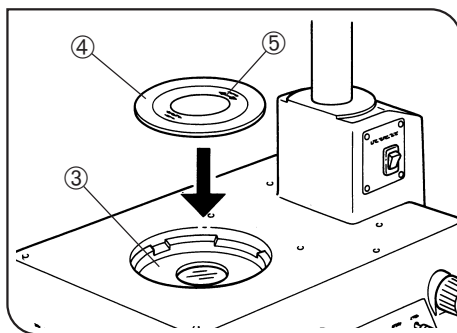

Fig. 21
- Place the polarizer ④ in the polarizer mounting hole with the arrow ⑤ facing up. (Fig. 21)
★ Set the polarizer so that the arrow ⑤ points sideways (polarizer vibration direction). (Fig. 21)